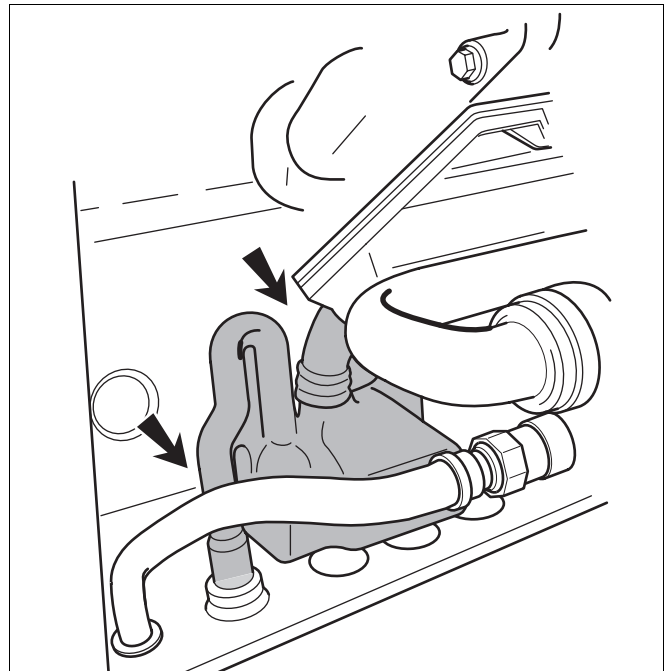

Fig. 32 Filling water into the condensate trap
- Remove the condensate trap (see fig. 32).